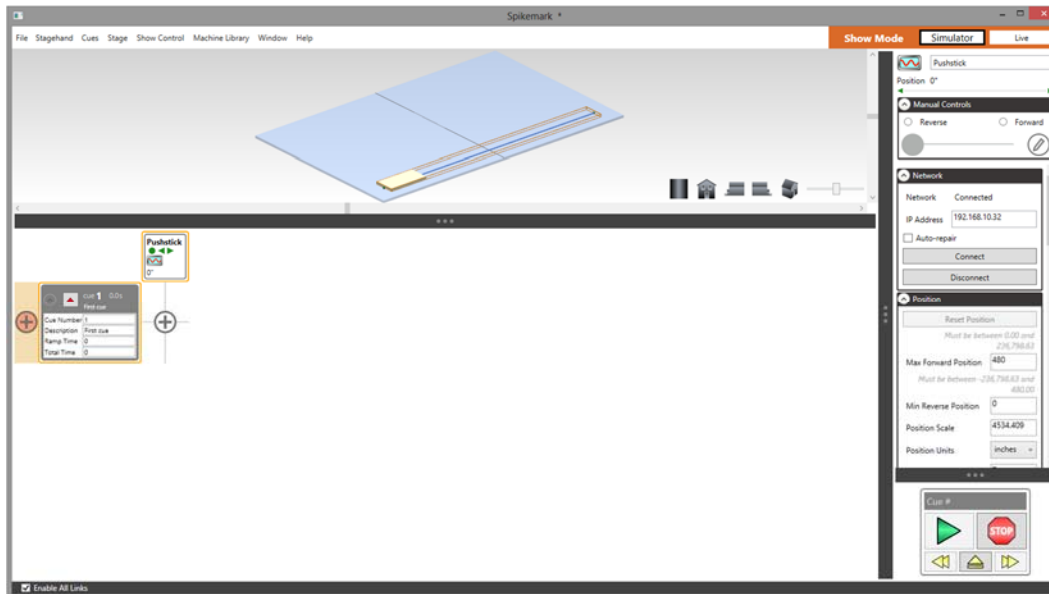

Figure 23
- When Spikemark first opens the show will contain one wagon named *Pushstick* that is placed downstage by default, and a single cue (Figure 23). We can change the name and position of this wagon (or remove it completely), but for now let's just leave it there.